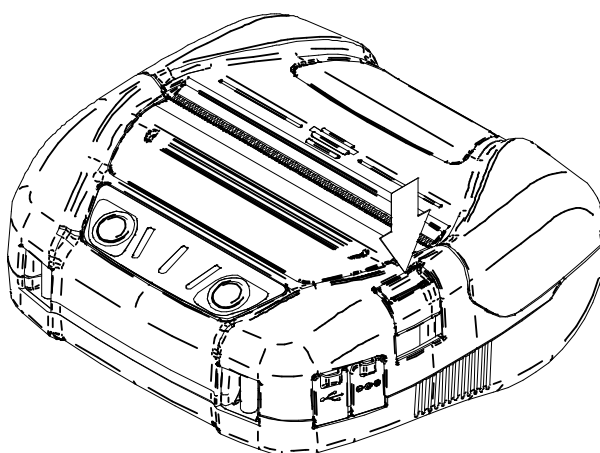

Figure 9-1 Paper Cover Open Button
- (1) Press the paper cover open button in the direction of the arrow shown in Figure 9-1, and open the paper cover.